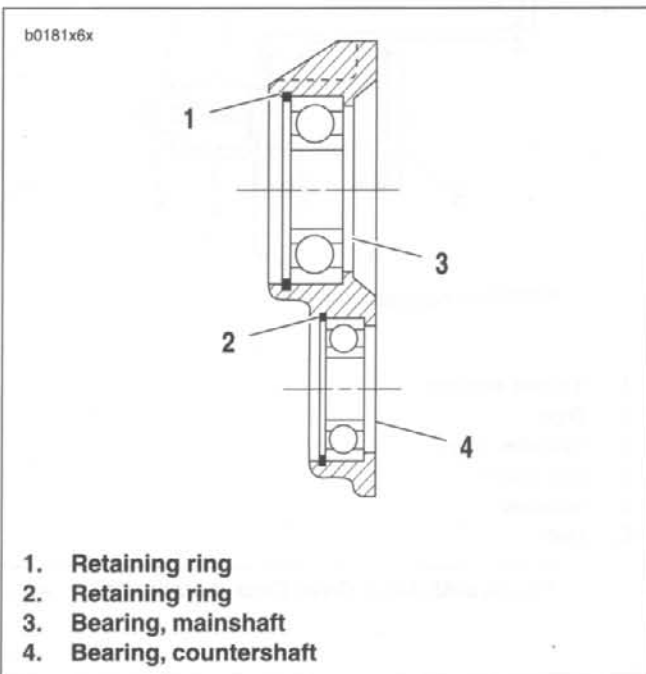

Figure 6-56. Ball Bearing Assembly
5. See Figure 6-56. If bearing replacement is required, remove retaining rings (1, 2). Press out bearings (3, 4) from the inside of the door.